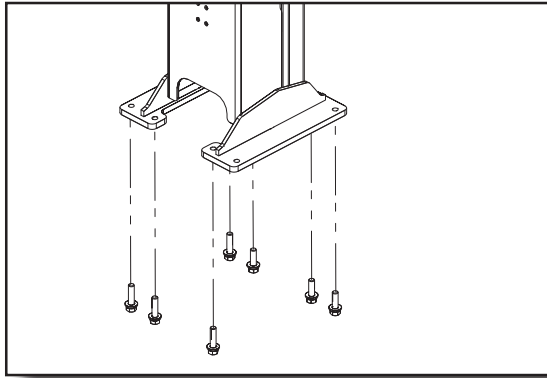

Figure 5-24. Mast 1 Mount Bolt Removal
- Remove the mast 1 mount bolts. See Figure 5-24.